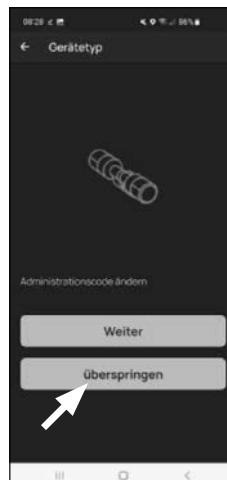

Fig. 7
- ⑧ A message appears informing you that you can change your administrator code. As you received a randomly generated administrator code at the time of delivery, this step is optional. You can bypass this with "Skip" (Fig. 7).